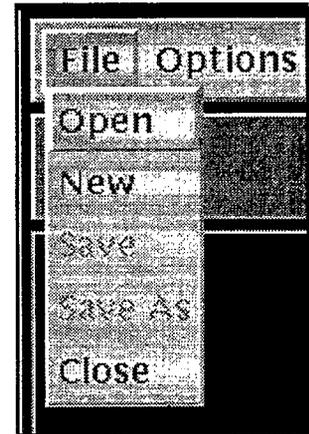

Fig. 40 — Checklist editor: file menu
- Click on *New* from the *File* menu (Fig. 40) in the **Checklist Editor Window**.
- Click on *Open* from the *File* menu (Fig. 40) in the **Checklist Editor Window**.
in the **Checklist Editor Window**. Note: *Create Checklist Set* (under *Options*) is not yet available. To save an edited checklist set (and keep the same name), click on *Save* under the *File* menu (Fig. 40) in the **Checklist Editor Window**. To save an edited checklist set with a new name, click on *Save As* under the *File* menu. MMC will prompt the user for the new name. To close an edit session without saving, click on *Close* under the *File* menu.